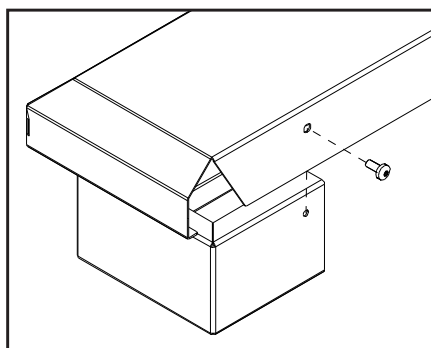

Figure 44: Installing Base Shelf onto Riser.
3. If installing with riser(s) the Base Shelf is to be fastened to the riser(s) with one T-20 screw at each end of the back (see Figure 44).
4. The leveling legs on the E20 may need to be adjusted to match the height of the riser and shelf. Each leveling leg has two (2) screws that can be loosened using a $\frac{1}{4}$ " hex driver. Adjust the leg to the required height and then retighten the screws.